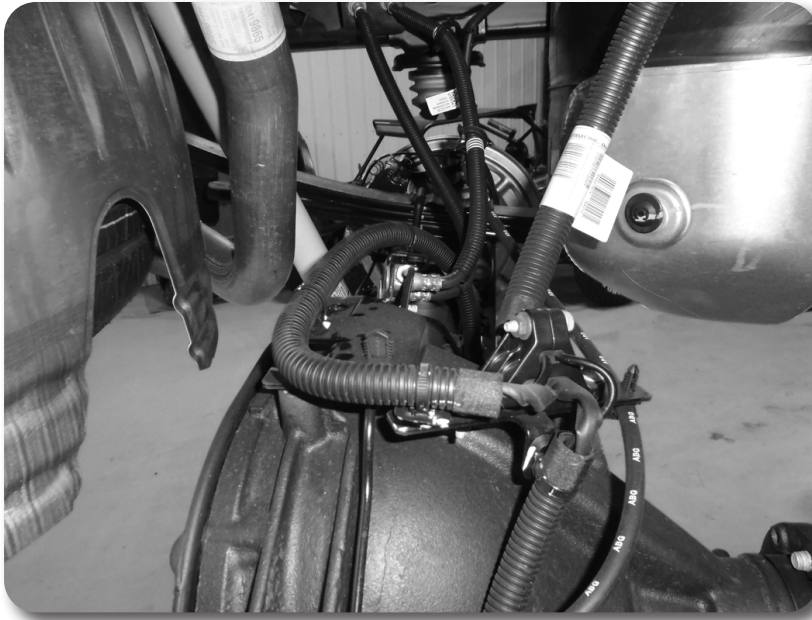

Figure 1
4. Remove the 3 bolts attaching the rear brake line / ABS bracket to the top of the rear differential Fig. 1. Discard hardware.